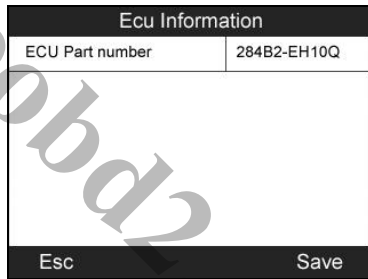

Figure 4.42
- 2) The ECU part number will be displayed once it’s successfully retrieved. Press the corresponding **FUNCTION BUTTON** ‘Save’ to store for later playback and printing. (Figure 4.42)